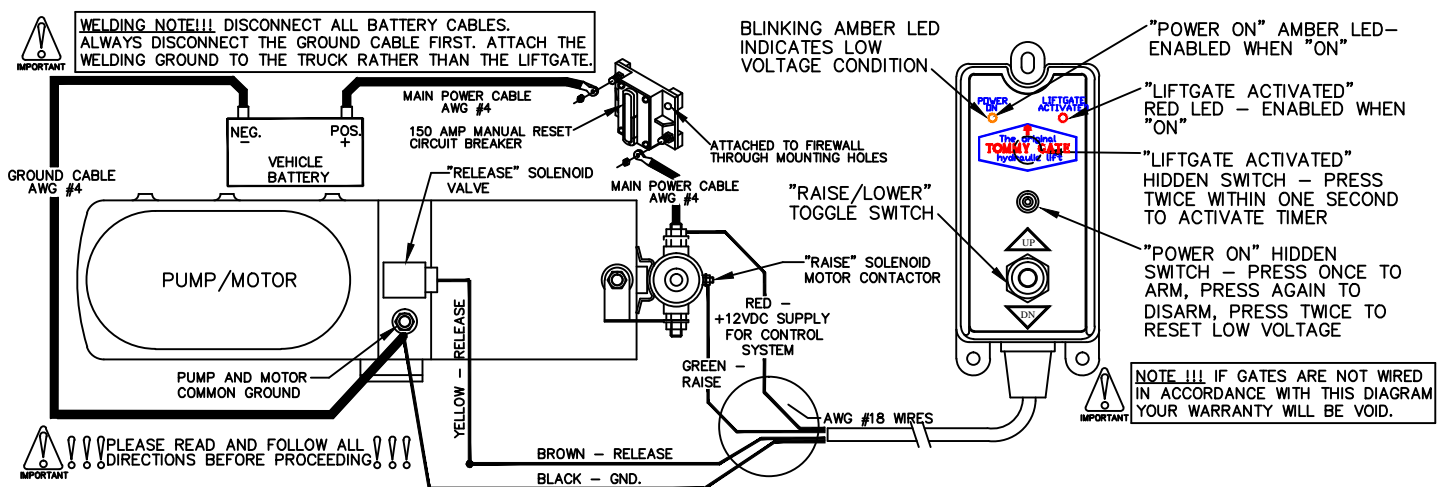

Figure 11: Wiring diagram.
2. **Push** the hidden "Power On" switch (Figure 11). The amber "Power On" LED will illuminate.
12. **Connect** the circuit breaker and battery as outlined in the *Tommy Gate Recommended Electrical Wiring Guidelines* and wiring diagram (Figure 11).